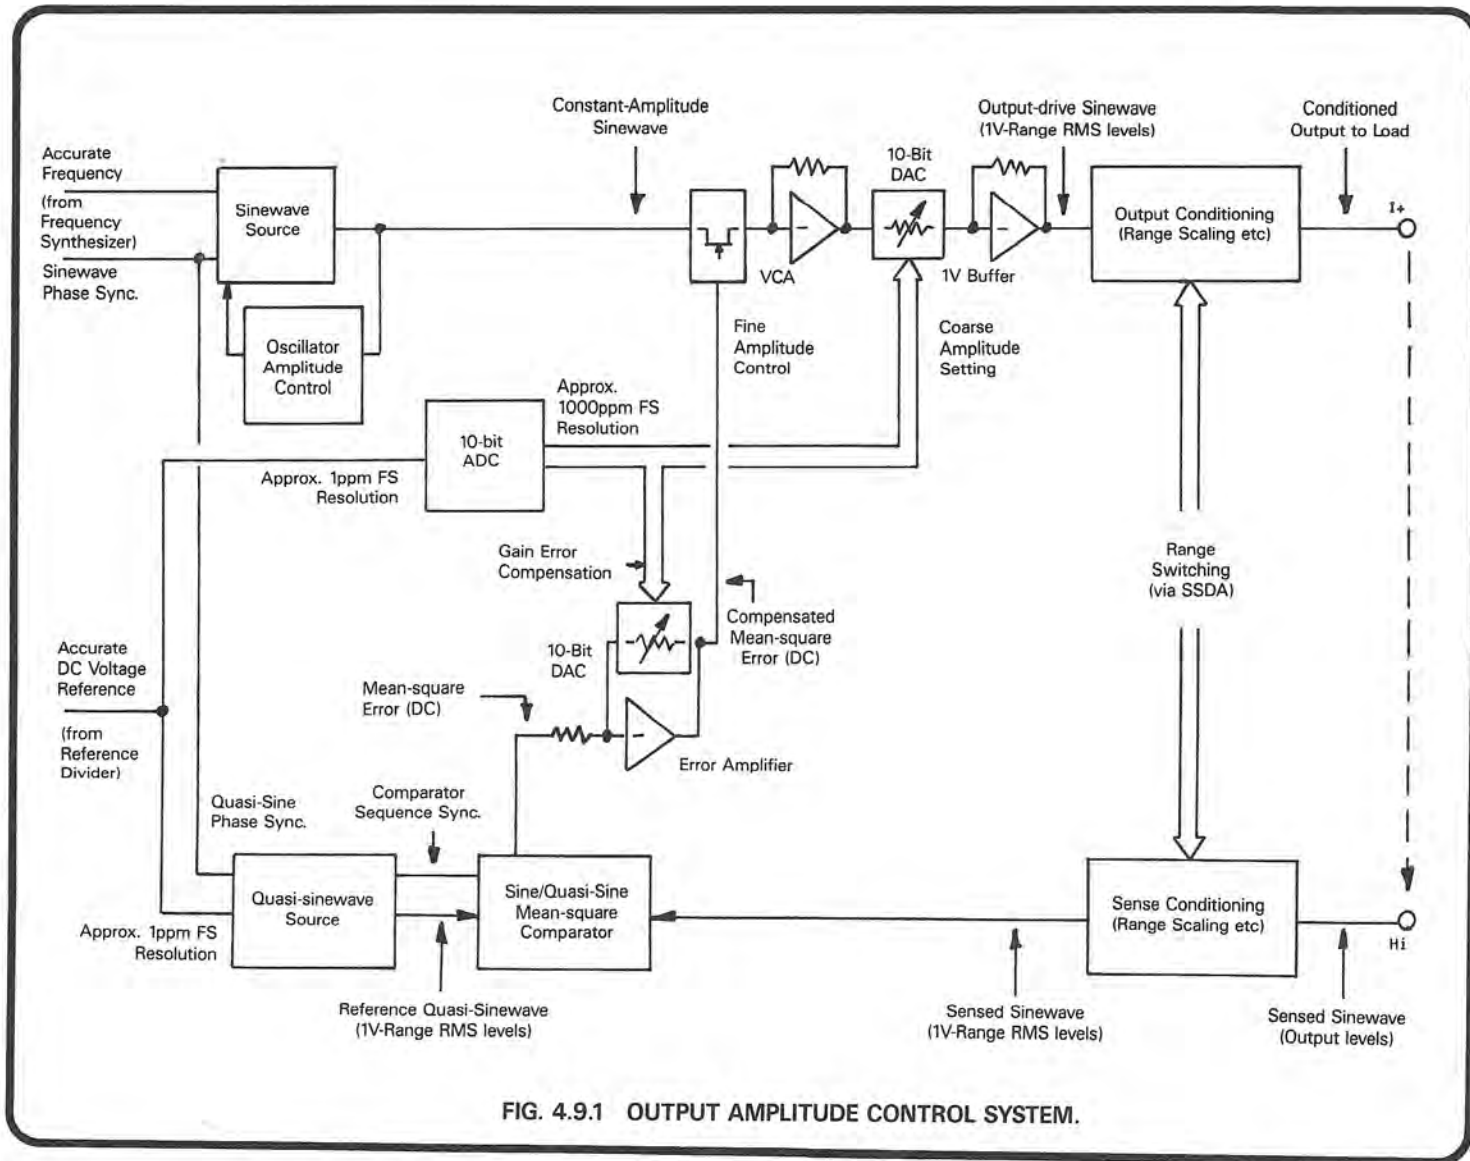

FIG. 4.9.1 OUTPUT AMPLITUDE CONTROL SYSTEM.
4.9.1 System Block Diagram (Fig. 4.9.1)
The system elements are described individually in the five sub-sections from 4.10 to 4.14. The system block diagram at Fig. 4.9.1 throws clear of the handbook, so that it can be used for reference when reading these descriptions.